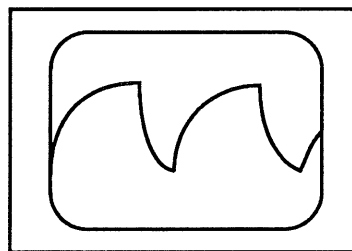

Figure 2-12. B OUT 7 Waveform.
16. The waveform should look like the one in Figure 2-12 and have the specifications listed in Table 2-3.